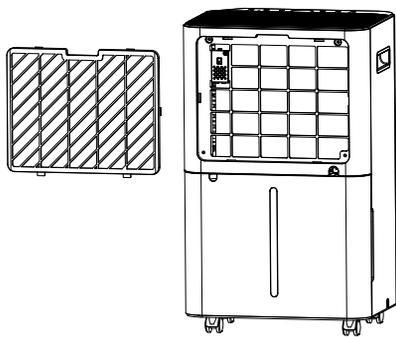

Fig. 1
1. Remove the filter by releasing it from its seat (Fig. 1).